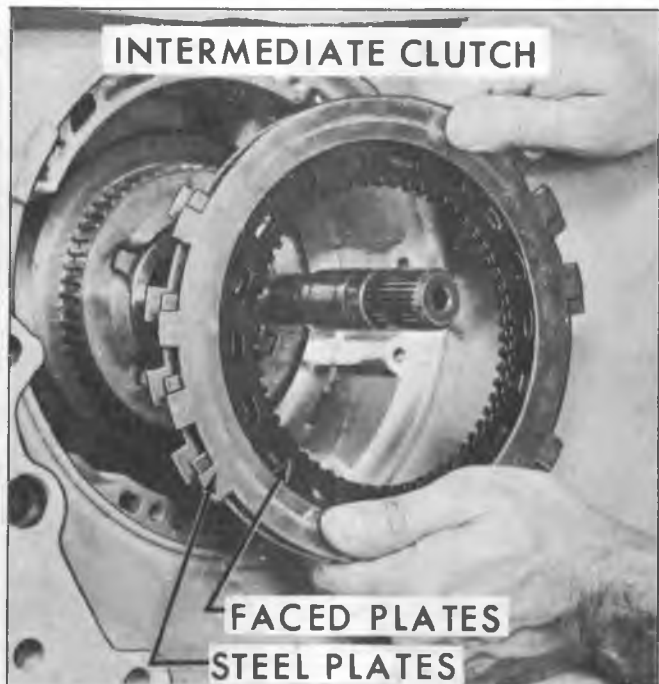

Fig. 30M--Removing Intermediate Clutch Plates
4. Remove intermediate clutch faced plates and steel reaction plates (fig. 30M).